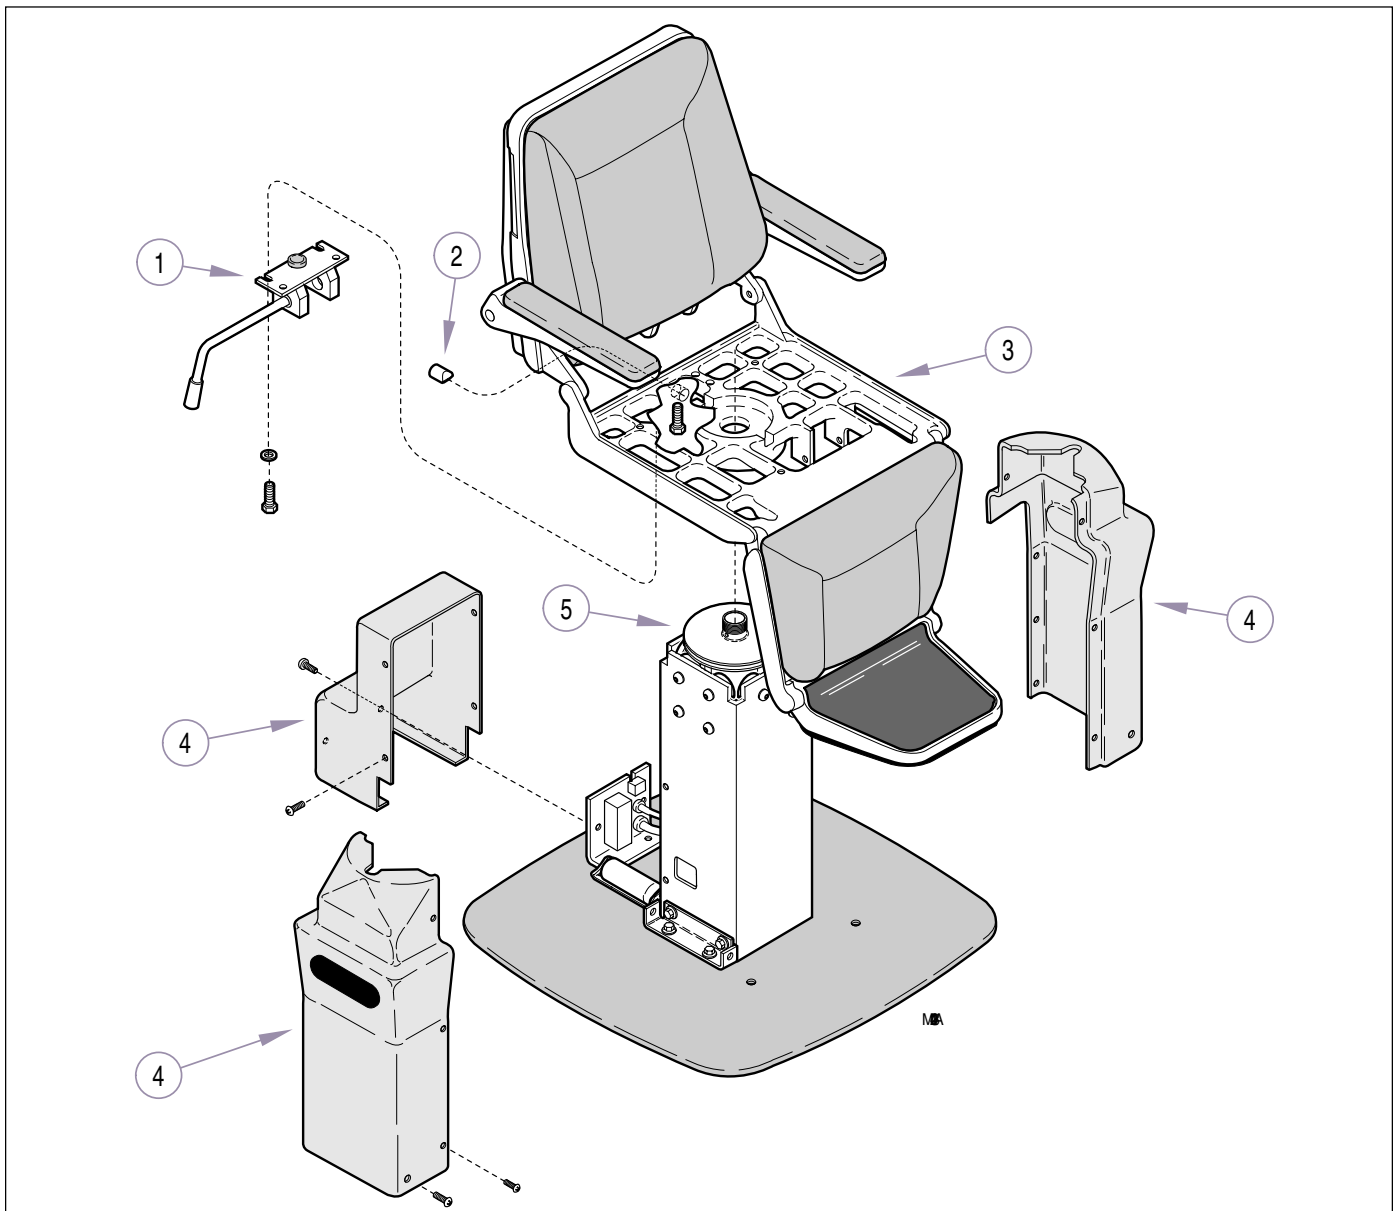

Figure 4-33. Main Harness
- (1) Remove thrust bearing (Refer to para 4.7).
- (2) Remove brake assembly (1, Fig. 4-33) (four bolts) and the stop (2).
- (7) Coat top surface of slide weldment (5, Fig. 4-33) with vaseline.
- (8) While feeding wire harness thru center hole of table top (3), position top on slide weldment (5).
- (9) Install brake assembly (1) but do not tighten mounting bolts or adjust brake until after the thrust bearing has been installed.
- (10) Install thrust bearing (Refer to para 4.7).